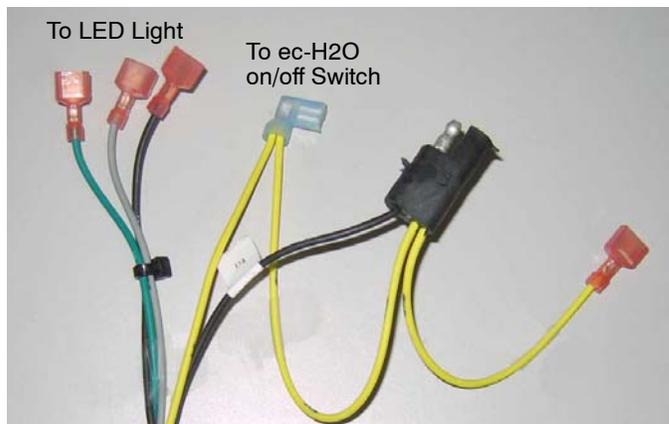

Fig. 15
- 13. Route the following ec-H2O harness wires to the control console as described in steps 14 and 15 (Figure 15).